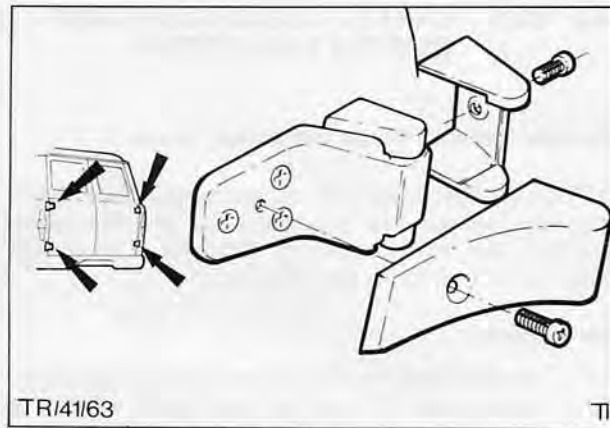

Fig. 49. Rear door hinge shrouds
1. Remove screw and washer assembly and detach shrouds (two each hinge) from hinges, Fig. 49.